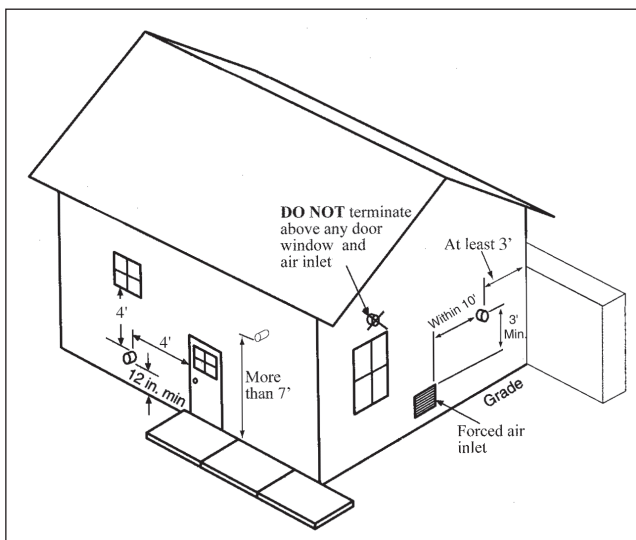

Fig. 15 - Termination Clearances of Category IV System
5. The vent termination must also maintain the following clearances; as shown in *Fig. 15 below*.
5. The vent termination must also maintain the following clearances; as shown in *Fig. 15 on page 22*.